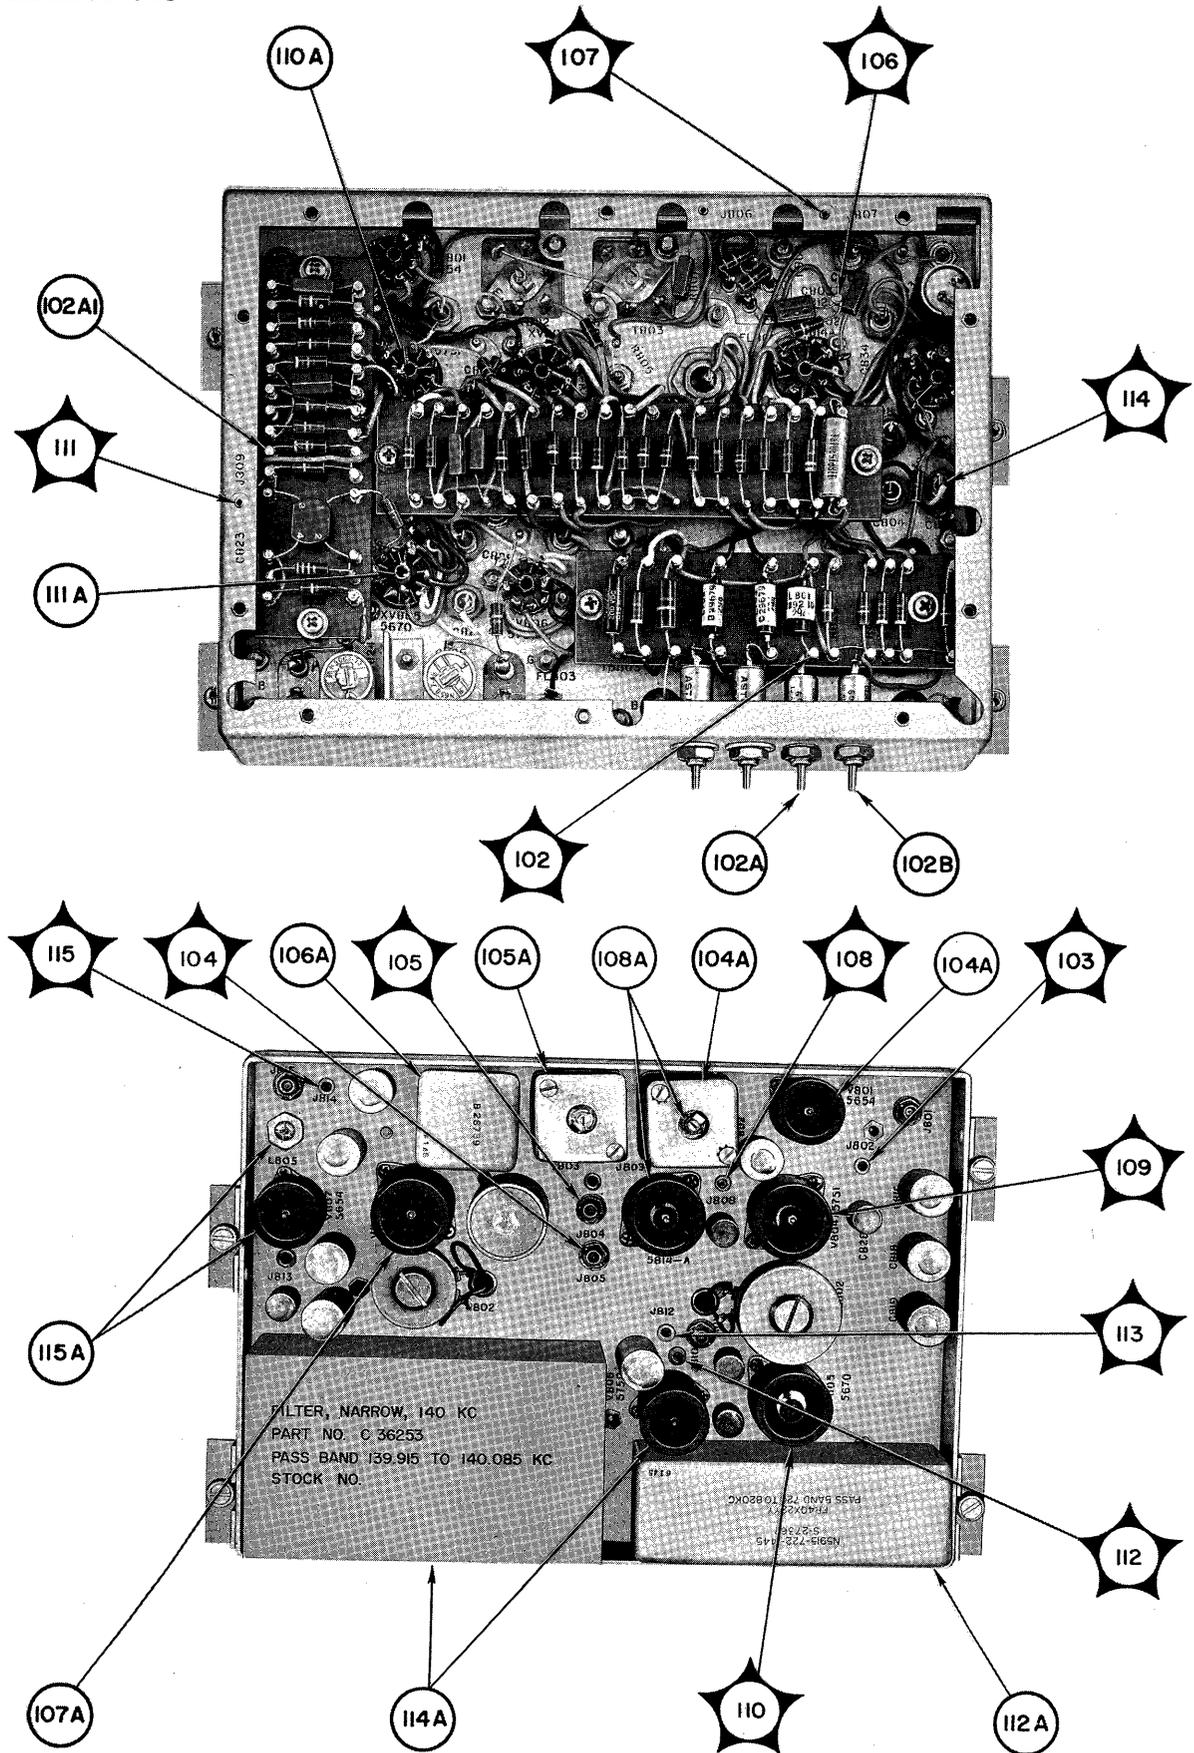

Figure 5-66. Synthesizer, Location of Test Points
- (1) Seating of tubes V801 through V807 in their sockets
- (2) Cable connections at J801, J804, J805, J811, and J815
- (3) All soldered connections at chassis feed-through terminals
- (4) Normal mechanical function of TUNING switch S702.
g. SYNTHESIZER TROUBLE-SHOOTING CHART.—Table 5-16 lists the steps for measuring supply voltages and stage-by-stage signal tracing in the synthesizer. Compare the results with those listed in the NORMAL INDICATION column and follow the instructions given in the NEXT STEP column. Figure 5-66 shows the location of test points. Table 6-7 gives values for voltage and resistance measurements.